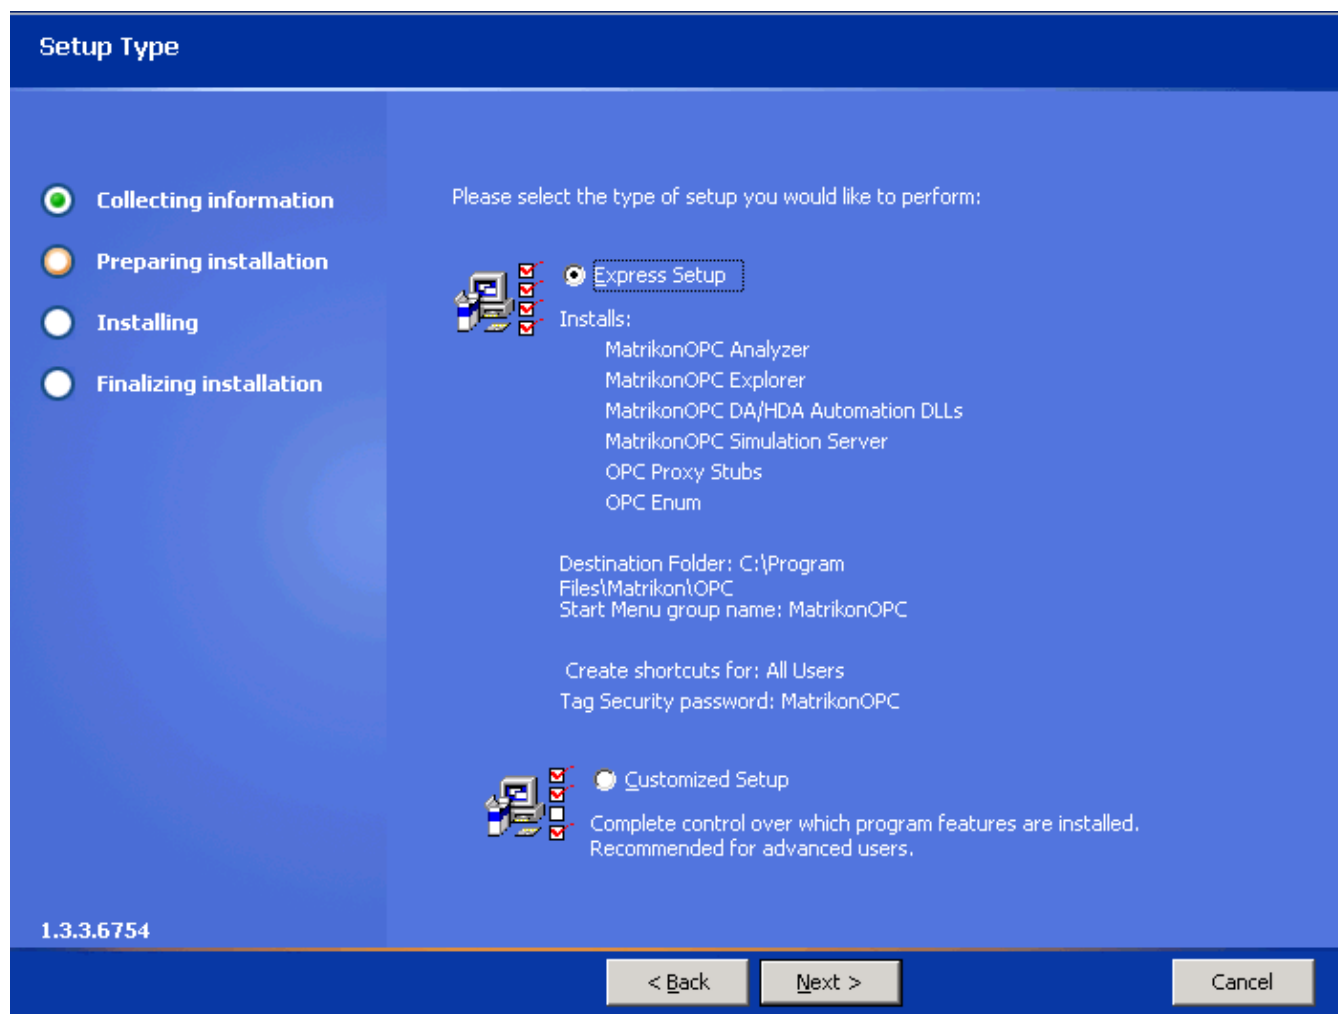

Figure 69 - Setup Type Screen
8. Click on the **Next** button. The **Setup Type** screen (Figure 69) appears.